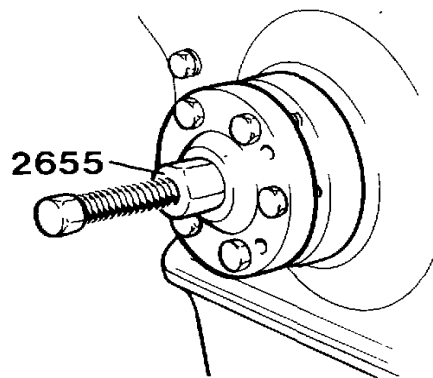

Fig. 63. Removing the polygon hub
3. Loosen the polygon hub centre bolt, remove the washer and pull off the hub using puller 2655 (fig. 63).